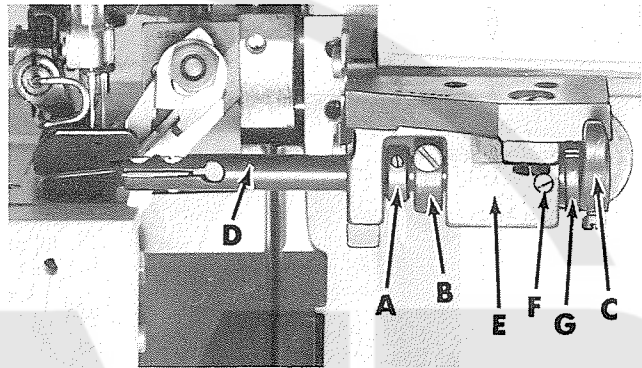

Fig. 23
dog passes the end of the pressure plate at the rear of the feeding cycle. Adjustment can be made by loosening screws (B) allowing forward or rearward movement of pressure plate (A). Additional adjustment can be obtained by loosening screws in collar (A, Fig. 23), actuating collar (B) and operating lever (C), allowing movement of pressure plate shaft (D). Align the presser foot to the throat plate needle holes and flat on the throat plate.